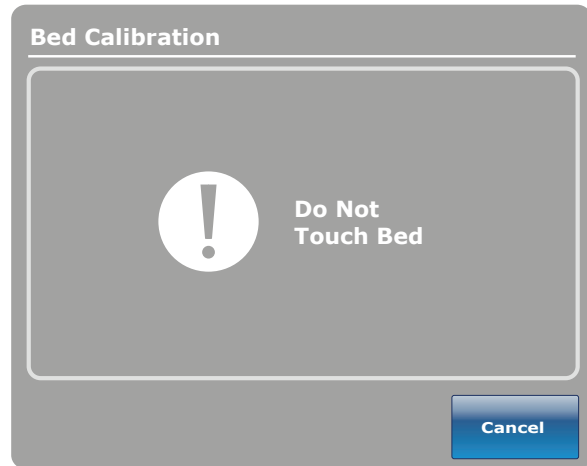

Figure 15: Do Not Touch Bed Screen
14. The “Do Not Touch Bed” screen will appear as shown in Figure 15.